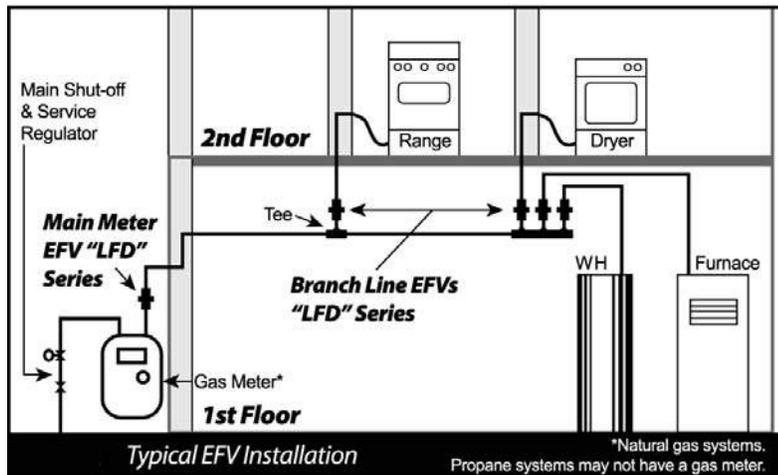

FIGURE 3-10
1. Application. Determine the Type of EFV based on the application (Ref. Figure 3.10)